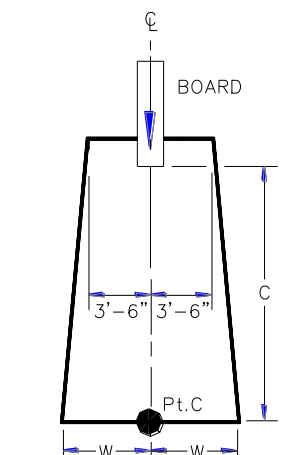

FIGURE 10
- A. The minimum clearance area in front of a properly installed diving board on an inground swimming pool is a minimum distance of three feet six inches (3'-6") (1067 mm) on either side of the board's centerline as shown in FIGURE 10. Pt. C extends a minimum distance of "C" from the tip end of the board as shown in FIGURE 10. The width distance "W" on either side of Pt. C is given in CHART 1 and shown in FIGURE 10.